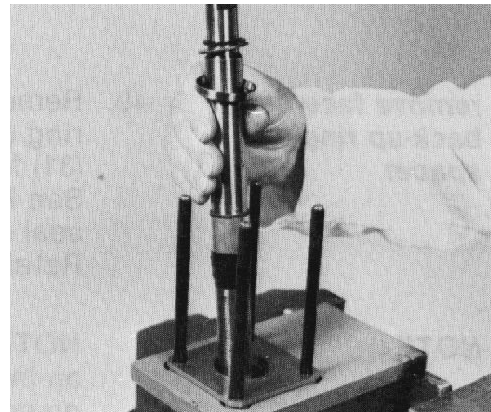

Figure 58
45. Remove the input shaft and snap ring, sliding it out of the upper cover end of the assembly (Fig. 58).